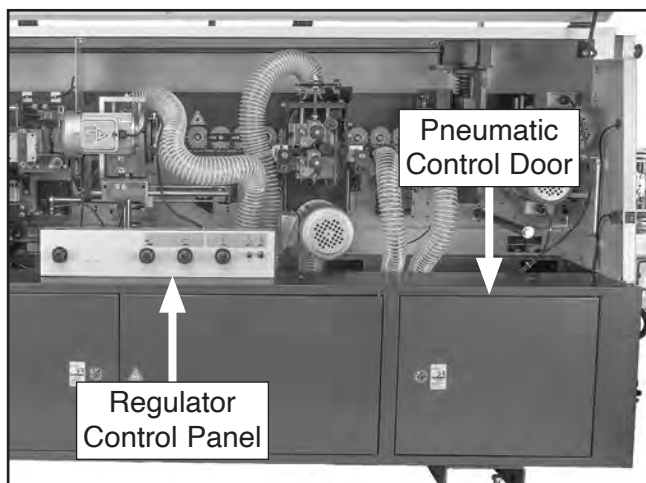

Figure 132. Location of pneumatic control door and regulator control panel.
Each pneumatic component is activated by a solenoid. There are (6) solenoids located behind the lower right door at the rear of the machine, and (1) is located behind the regulator control panel (see **Figure 132**).